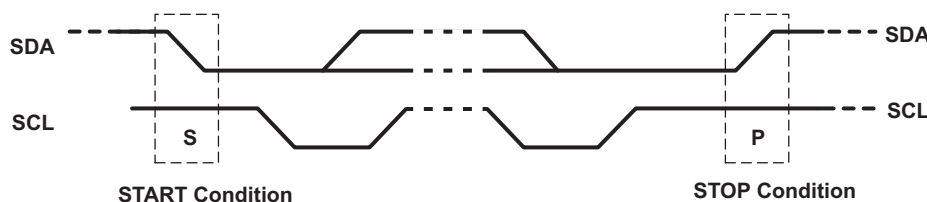

Figure 5. Definition of Start and Stop Conditions
Both data and clock lines remain high when the bus is not busy. A high-to-low transition of the data line while the clock is high is defined as the start condition (S). A low-to-high transition of the data line while the clock is high is defined as the stop condition (P) (see Figure 5).